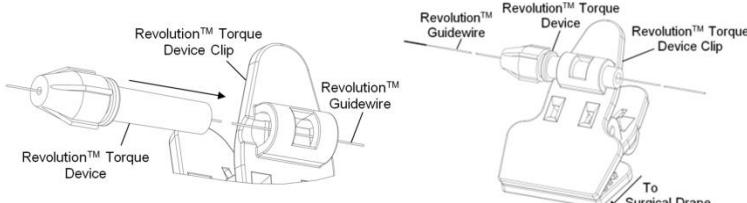

Figure 9: Tighten torque device to guidewire
9. Clip the Torque Device Clip to the surgical drape and slide the torque device into the slot on the Torque Device Clip as shown in Figure 9. **WARNING: Ensure that the torque device is appropriately tightened and that it will not spin in the Torque Device Clip.** Replace the torque device if it is not firmly secured in the Torque Device Clip. The torque device should be tightened as close to the handle as possible and is **NOT to exceed 10cm (4in)**. **Precaution: Monitor the smooth tracking of the drive shaft over the guidewire during operation. If resistance is encountered during the procedure, remove the Revolution™ Peripheral Atherectomy System and flush the system.**